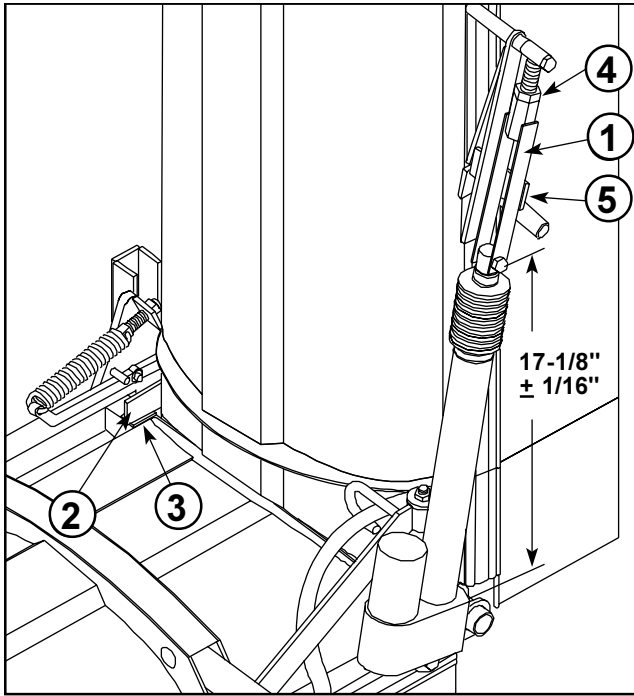

FIG. 14
6. Measure the length of the Actuator. It should be 17-1/8" ± 1/16" from the face of the Actuator Front Housing to the center of the cap screw. (FIG. 14.)